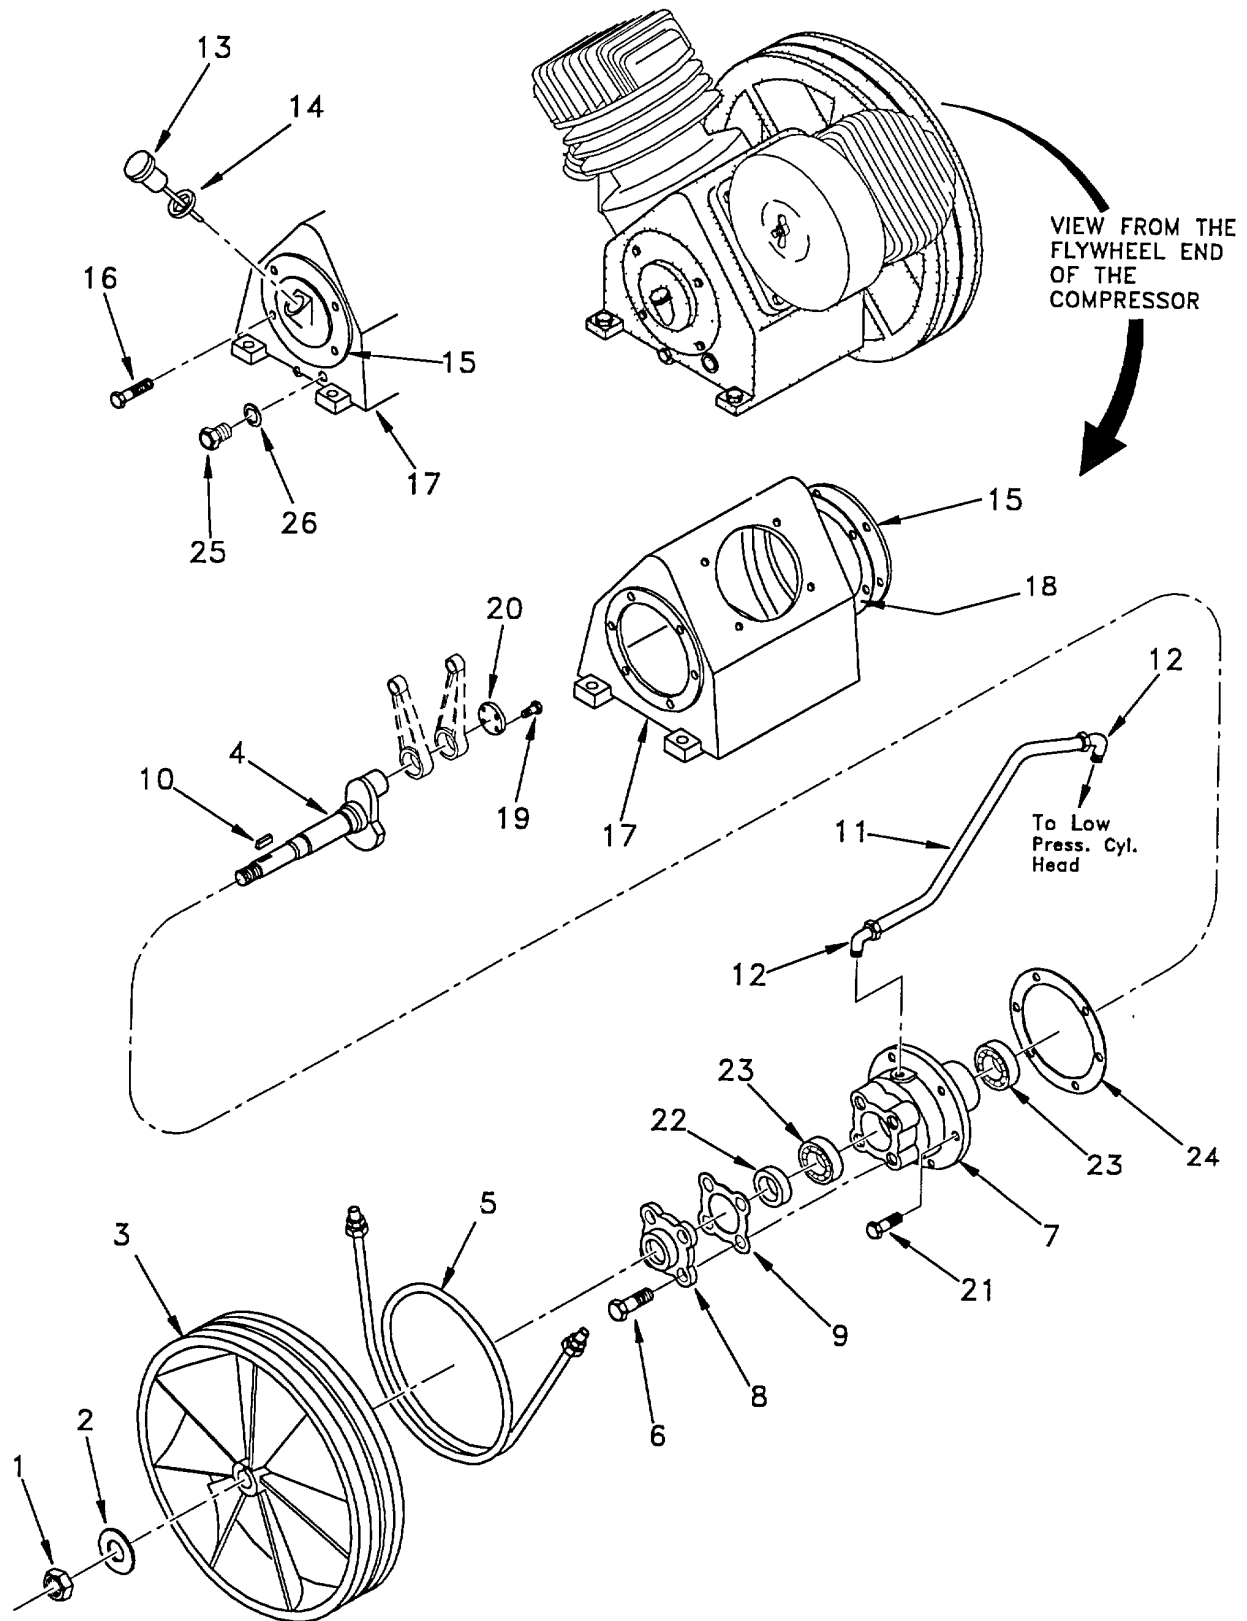

Figure 5-8. Crankshaft, crankcase and Related Parts
- (1) Remove nut (1, Figure 5-8) and washer (2) securing flywheel (3) to crankshaft (4).
- (2) Remove flywheel (3) from crankshaft (4).
- (3) Disconnect intercooler (5) from cylinder head fitting on high pressure side, elbow on low pressure side.
- (4) Remove four bolts (6) from bearing retainer (7).
- (5) Remove seal retainer (8) and gasket (9) from bearing retainer (7). Discard gasket (9).
- (6) Remove woodruff key (10) from crankshaft (4).
- (7) Remove crankshaft vent tube (11) from vent tube fittings (12).
- (8) Remove oil level gauge (13) and gasket (14) from crankcase cover (15). Discard gasket (14).
- (9) Remove four bolts (16) and crankcase cover (15) from crankcase (17).
- (10) Remove lower gasket (18) from crankcase (17). Discard lower gasket (18).
- (11) Remove four bolts (19) and round disk (20) from crankshaft (4).
- (c) Install piston pin (13) through piston (14) and connecting rod (4). Secure with two snap rings (12).
- (12) Install the assembled piston assembly (3) and high pressure connecting rod (4) into the crankcase (5).
- (13) Slide the high pressure connecting rod (4) onto the crankshaft.
- (14) Align the holes in the lower gasket (17) with holes in the crankcase (5).
- (15) Align the holes in the lower gasket (17) with holes in the crankcase (5).
- (16) Install four bolts (1) through the flange on the cylinder (8), lower gasket (17) into the crankcase (5). Tighten.
- (17) Install new valve gasket assembly (10) into cylinder (8).
- (18) Align the holes in head gasket (11) with holes in the cylinder (8).
- (19) Align high pressure cylinder head (7) holes with holes in head gasket (11) and cylinder (8).
- (20) Install five bolts (6) through high pressure cylinder head (7), head gasket (11) and cylinder (8). Tighten.
- (21) Using a suitable bearing driver press the bearing (23, Figure 5-8) and oil seal (22) onto the crankshaft (4).
- (22) Align gasket (24) up with holes in bearing retainer (7) and crankcase (17).
- (23) Slide the bearing retainer (7) and crankshaft (4) onto connecting rods and crankcase (17).
- (24) Install six bolts (21) through bearing retainer (7) and gasket (24) into crankcase (17).
- (25) Align gasket (9) up with holes in bearing retainer (7) and seal retainer (8).
- (26) Install four bolts (6) through seal retainer (8) and gasket (9) into bearing retainer (7).
- (27) Align holes in round disk (20) with holes in crankshaft (4).
- (28) Install four bolts (19) through round disk (20) into crankshaft (4). Tighten.
- (29) Install woodruff key (10) into crankshaft (4).